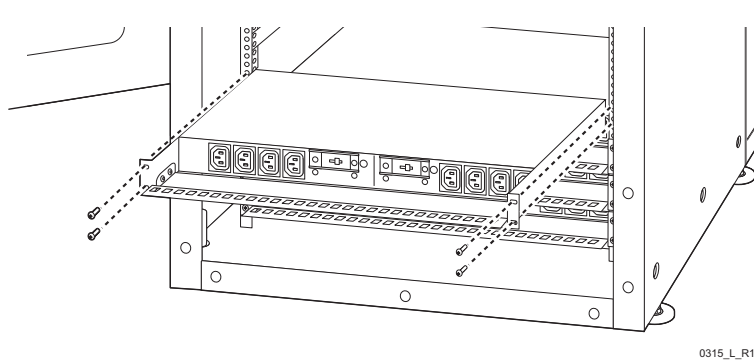

Figure 21-8. Removing the PDU from the Rack
- 6 Remove the fasteners securing the PDU to the rack using a #2 Phillips screwdriver (Figure 21-8).